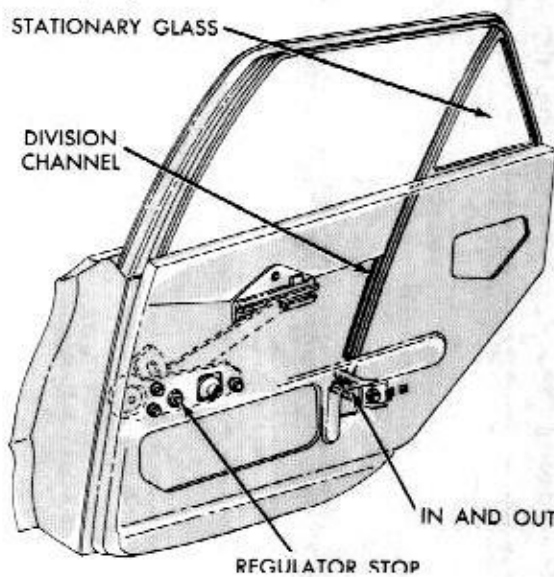

Fig. 40—Rear Door Glass Adjustments—Sedan
- (1) Loosen division channel lower bracket screw (Fig. 40) and lower window 1/2 way.
- (2) Tighten division channel lower bracket screw.
- (3) Lower window so top of glass is even or slightly below belt line of outer panel.
- (4) Position regulator stop against regulator sector stop and tighten nut.